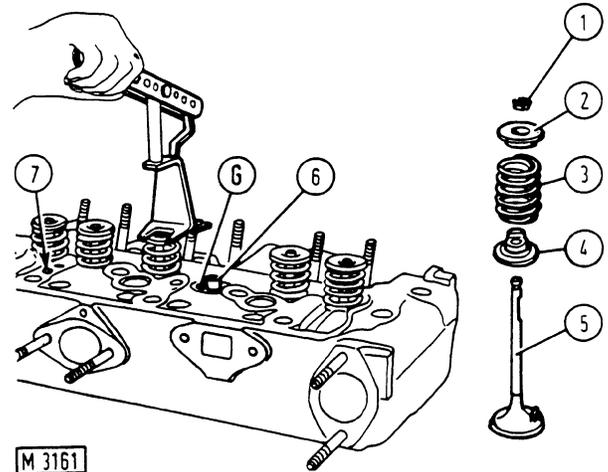

Fig. 17 - Dismantling (installing) valves and springs with tool 75291050.
To dismantle the valves remove cylinder head, compress springs with tool 75291050 (fig.17) and remove split cone keepers (1).
- split cone retainers (1, fig. 17) are perfectly seated in their housings;renew them if in doubt.